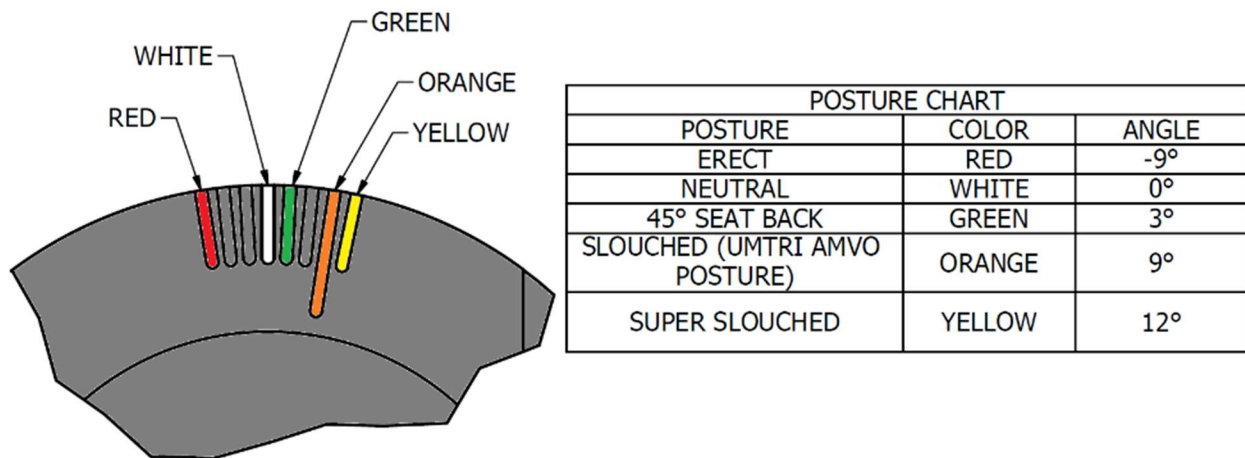

Figure 6-59. Lumbar spine pitch change indicator posture settings
- 6.6.4 Manipulate the upper portion of the spine to achieve the desired posture setting, as shown in either Figure 6-59.